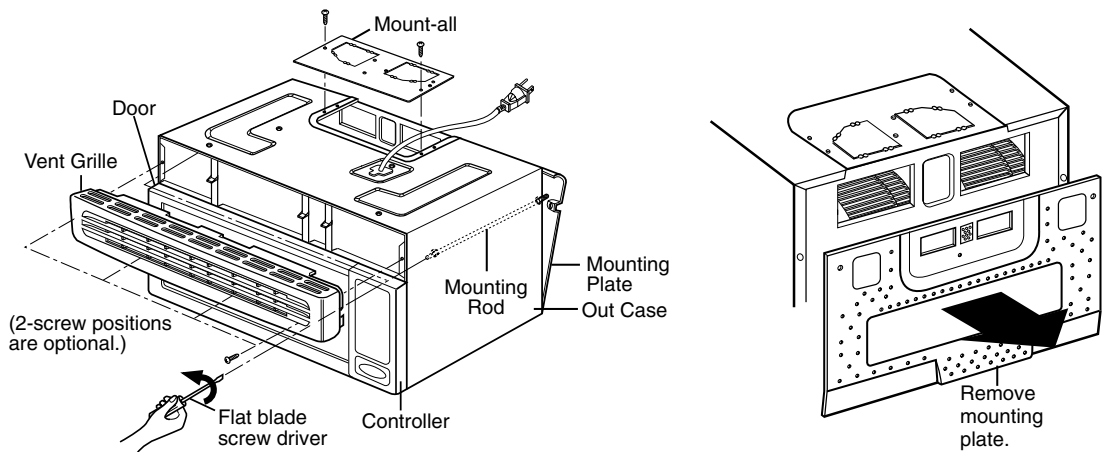

Figure 11
2. Turn two mounting rods anti-clockwise with flat blade screwdriver and take off the mounting plate from the unit. See figure 11.